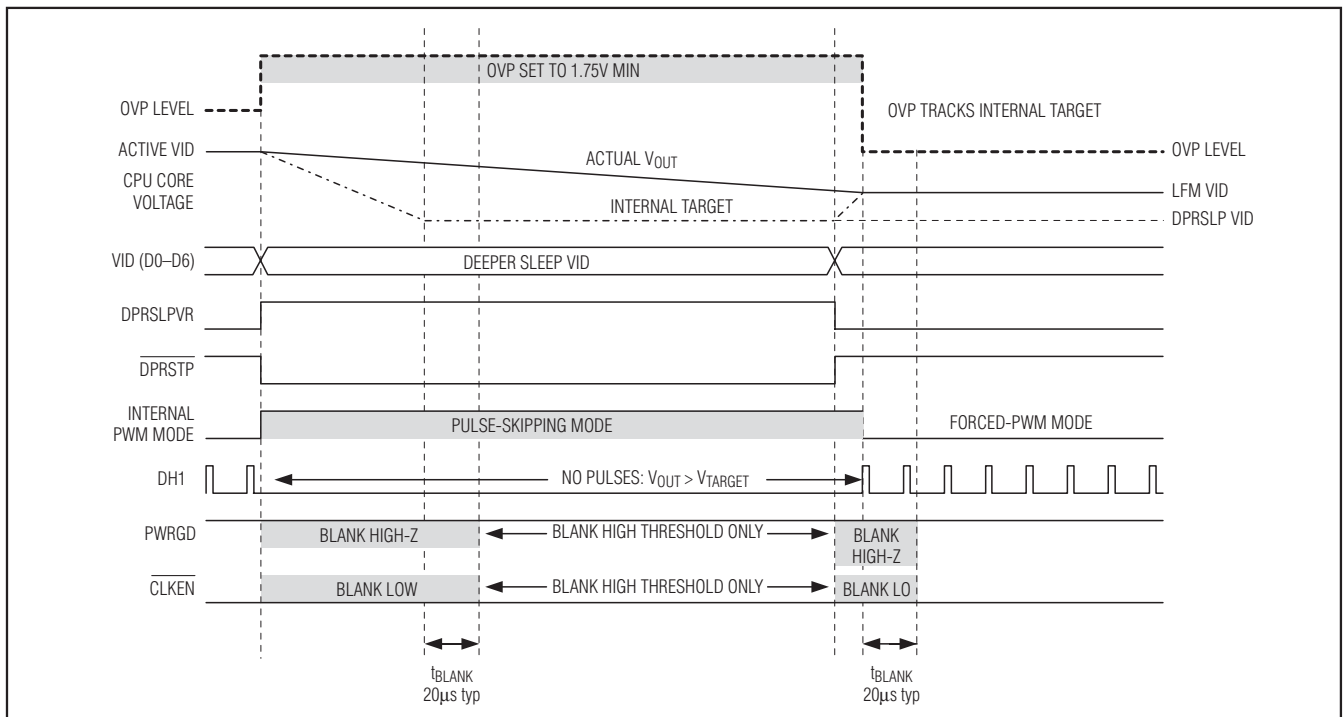

Figure 5. IMVP-6 C4E (C4 Early Exit) Transition
When  $DPRSLPVR$  goes high, the MAX8796/MAX17401 immediately enter pulse-skipping operation (see Figures 5, 6, 7). If the VIDs are set to a lower voltage setting, the output drops at a rate determined by the load and the output capacitance. The internal target still ramps as before, and the upper  $PWRGD$  threshold remains blanked high impedance until the output voltage reaches the internal target:
- Fast C4E deeper sleep exit:** When exiting deeper sleep ( $DPRSLPVR$  pulled low) while the output voltage still exceeds the deeper sleep voltage, the MAX8796/MAX17401 quickly slew (50mV/ $\mu s$  min regardless of  $R_{TIME}$  setting) the internal target voltage to the DAC code provided by the processor as long as the output voltage is above the new target. The controller remains in skip mode until the output voltage equals the internal target (until the first on-time is triggered by the error amplifier). Once the internal target reaches the output voltage, switching begins and the controller is allowed to enter forced-PWM mode. The controller blanks  $PWRGD$  and  $CLKEN$  (forced high impedance) until 20 $\mu s$  after the transition is completed. See Figure 5.